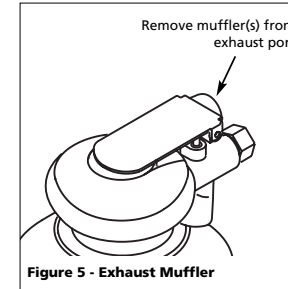

Figure 5 - Exhaust Muffler
3. Remove foam exhaust muffler (See Figure 5) and wash in warm, soapy water. Allow muffler to air dry before reassembly. Replace muffler if unable to adequately clean.